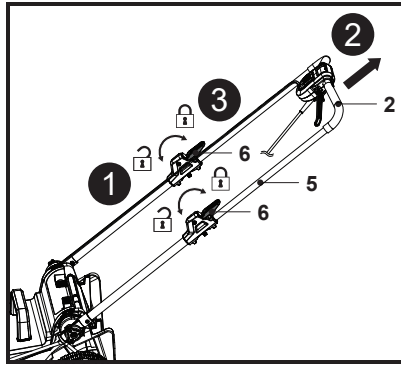

Fig. 3
5. Ensure the two lower handle bars (7) are assembled on the same height level on both sides.
6. Make sure that the control cord (19) runs on the upper side of the lower handle bar (7).
7. Open the two locking levers (6), then grasp the grip handle (2) and gradually pull the upper handle bar (5) out all the way to the end (Fig. 3, steps 1, 2).
8. Close the two locking levers (6) and check whether the upper handle bar (5) is secured (Fig. 3, step 3).